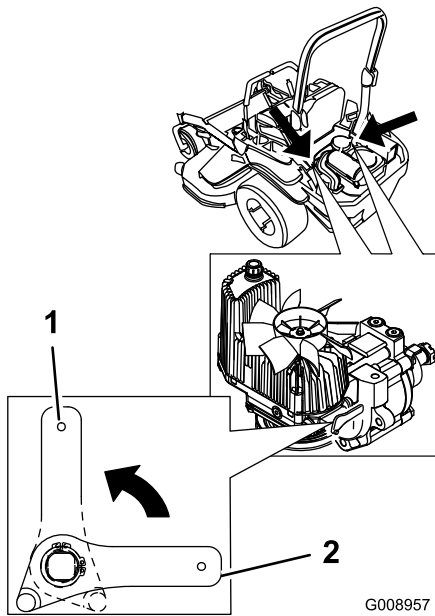

Figure 35
2. Rotate the release-valve levers vertically to push the machine. This allows hydraulic fluid to bypass the pump, enabling the wheels to turn (Figure 35).
4. Rotate the release valve levers horizontally to run the machine (Figure 35).